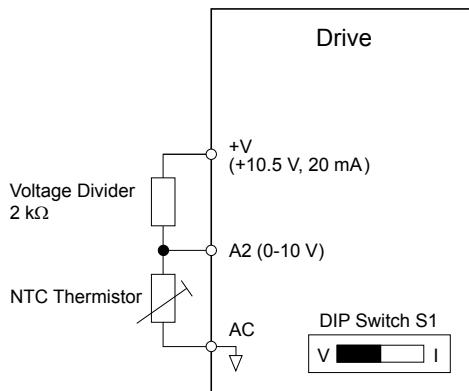

Figure 5.93 Motor Protection Circuit Using NTC Input
**Figure 5.93** shows a circuit using the NTC thermistor and the terminal resistance values. Set DIP switch S1 on the drive to "V" for voltage input when wiring the NTC thermistor input to terminal A2 on the drive.